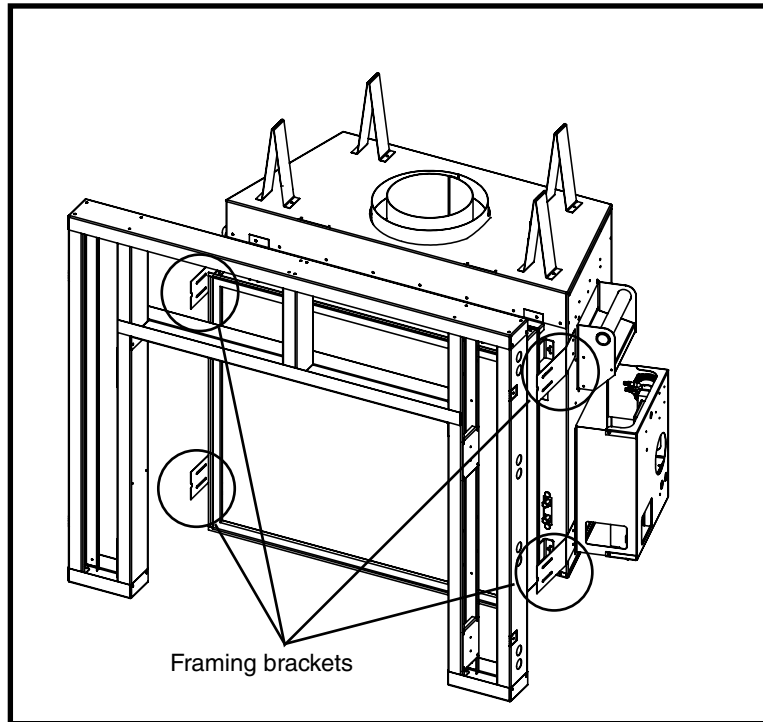

Figure 17: TC30 Framing brackets.
- Align and secure the framing plates (8) to the frame so that they are in line with the framing brackets on the fireplace unit (Figure 17). Align the assembled frame to the unit framing brackets (Figure 17). Attach at the fastening points through the access holes in the outer side studs (3).
- Secure the frame assembly to existing framing through the stud header (5) and the stud plates (7).